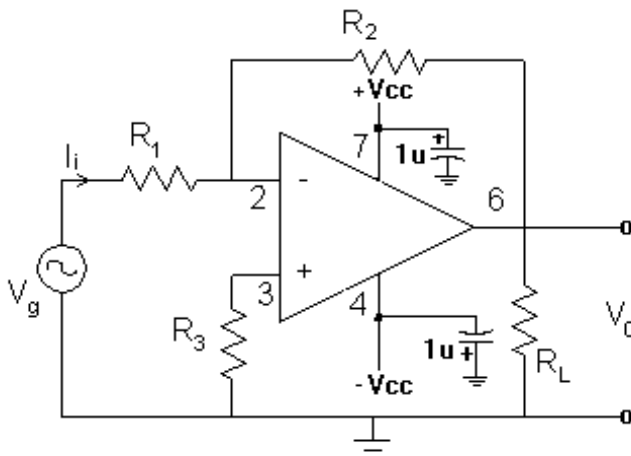

Figure 9-3
1. Use the data sheet to predict the typical maximum output voltage swing, slew rate, small signal unity gain bandwidth, and short circuit current for the circuit in figure 9-3. (5 points)
4. Using the circuit in Fig 9-3, calculate the amplifier passband voltage gain = V_o / V_g , passband dB gain, passband output RMS voltage, and small signal bandwidth f_{high} for each value of R_2 in the table below. $V_g = 0.1V_{PP}$ sin wave, $R_1 = R_3 = 10\text{ k}\Omega$, $R_L = 2.2\text{ k}\Omega$. Use the typical Small Signal unity gain specification (see the Gain Bandwidth Product in Part II) to predict the small signal bandwidth of this amplifier. For credit, attach sheet or show work on back of page. (30 points)
5. Build the circuit for Figure 9-3 in Pspice with $R_1 = 10\text{ k}\Omega$, $R_2 = 47\text{ k}\Omega$, $R_3 = 10\text{ k}\Omega$, and $R_L = 1\Omega$ (1Ω is close enough to a short circuit for the current limit measurement)(Note: you can easily modify the circuit from Lab 8 for this). Apply 5VDC for V_g (use a VDC source) and turn on the current bias display. The current through R_L is the short circuit current I_{sc} .
1. Construct the circuit in Figure 9-3.
- Use the circuit in Figure 9-3. Let $R_1 = 10 k\Omega$, $R_2 = 10 k\Omega$, $R_L = 2.2 k\Omega$, $R_3 = 10 k\Omega$. Theoretical Gain $V_O/V_g = -1$